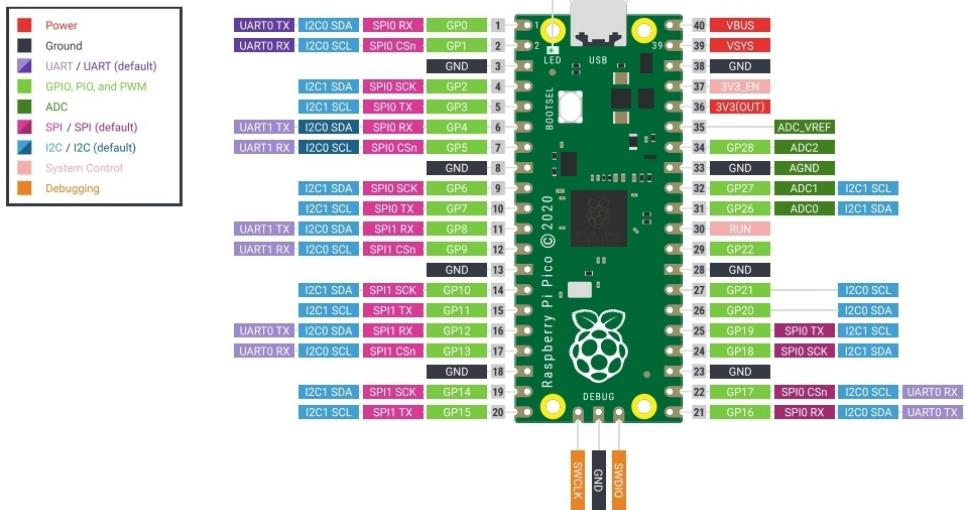

Fig. 13.1: Pin diagram
**Solution:** Connect the LED to pico as per Table 13.1 and Fig. 13.1